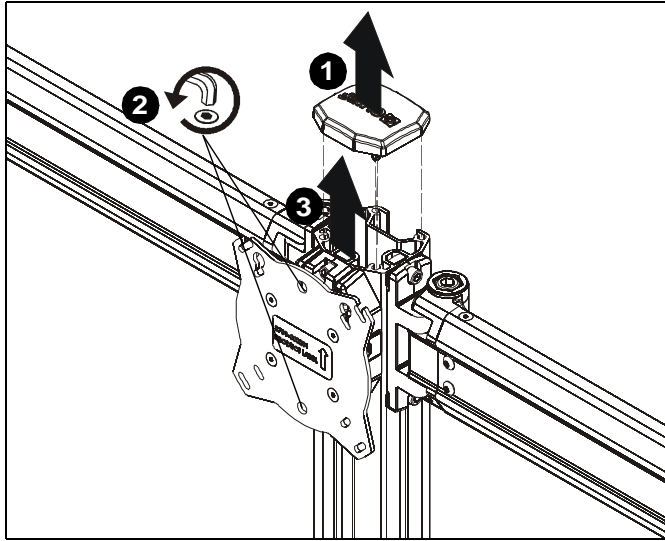

Figure 13
- Remove column cap (D) from array column. (See Figure 13)
- Loosen height adjustment screws for center faceplate assembly. (See Figure 13)
- Slide faceplate assembly up through column channel until it is removed from column. (See Figure 13)